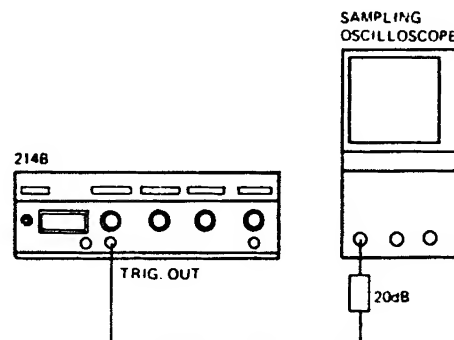

Figure 4-10.
1. Connect equipment as shown in Figure 4-10 and set 214B controls as follows: